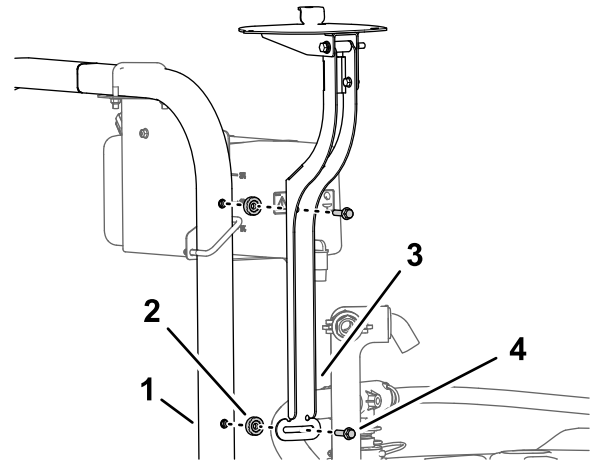

Figure 154
- Assemble the receiver mount and spacer (3/8 x 7/16 inch) to the roll bar with the flange-head bolt (3/8 x 1-1/2 inches) as shown in Figure 154.